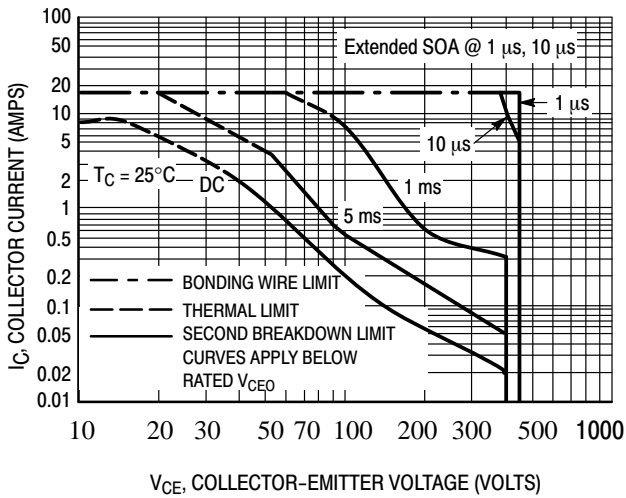
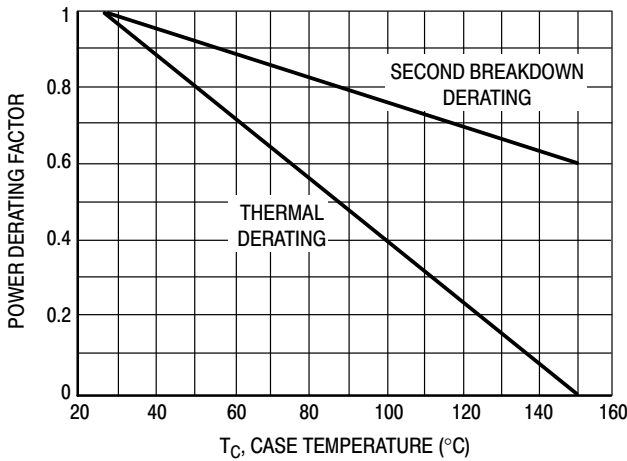

Figure 6. Maximum Forward Bias Safe Operating Area
Figure 8. Forward Bias Power Derating
The data of Figure 6 is based on  $T_C = 25^\circ\text{C}$ ;  $T_{J(pk)}$  is variable depending on power level. Second breakdown pulse limits are valid for duty cycles to 10% but must be derated when  $T_C \geq 25^\circ\text{C}$ . Second breakdown limitations do not derate the same as thermal limitations. Allowable current at the voltages shown on Figure 6 may be found at any case temperature by using the appropriate curve on Figure 8.
The sustaining or active region voltage requirements in switching applications occur during turn-on and turn-off. If the load contains a significant capacitive component, high current and voltage can exist simultaneously during turn-on and the pulsed forward bias SOA curves (Figure 6) are the proper design limits.
2. The turn-on time does not exceed 10  $\mu$ s (see standard pulsed forward SOA curves in Figure 6).